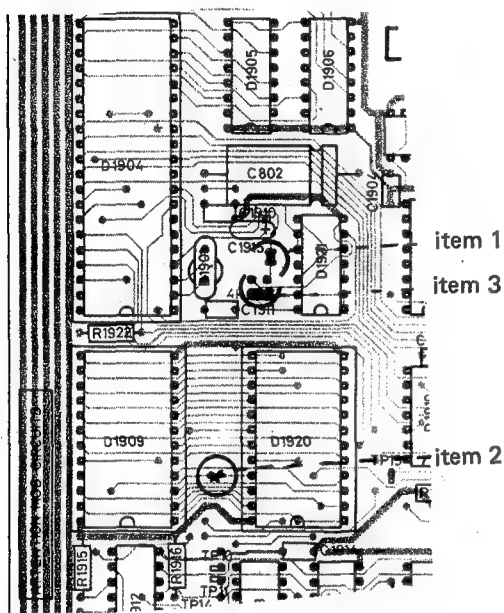

Fig. 1. Main p.c.b. lay-out, component side
- Unsolder the two soldering spots (see fig. 1 and 2 item 1)
- Repair the track interruption (see fig. 1 item 2)
- Place a jumper. Ordering code 5322 263 64007 (see fig. 1 item 3)
The circuit of the Automatic Multimeter PM2521 can be subdivided into three main functional sections as shown in Fig. 1.: